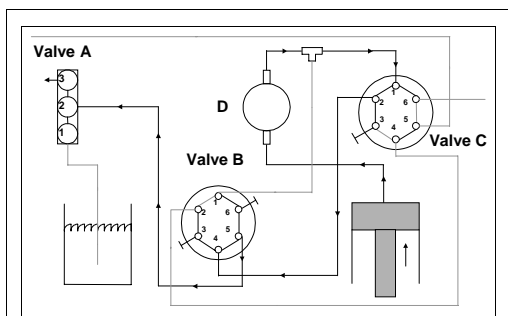

Figure 4.32: TLD Purge
Figure 4.32 shows the flow schematic of the TLD purging. Valve A is turned to connect ports 3 and 2. Valve B is turned to connect ports 4 and 5. valve C is turned to connect ports 1 and 2. As the syringe piston moves forward, fluid is pushed through the line connecting the syringe to the pressure transducer (D), to port 1 on valve C, out port 2 on valve C, to port 4 on valve B and out the line connecting port 5 of valve B and port 2 of valve A. Finally, the fluid is pushed through the line connected at port 3 of valve A.